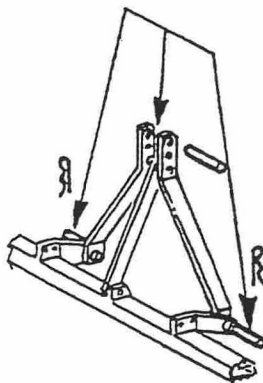

FIG. 5
- 9.3 - Bring the tractor up to the machine, **taking care not to get between the two at this stage**, and proceed with coupling only when the tractor is stationary. Fix the three coupling arms with the relative pins and insert the appropriate safety split pins (fig. 5).
- 9.4 - Limit sideways movements and keep the machine parallel with the tractor, using the stabilizer chains and arm adjustment device (fig. 5.b).
- 9.5 - Adjust the third point arm until the machine coupling is at right angles (fig. 5.a).